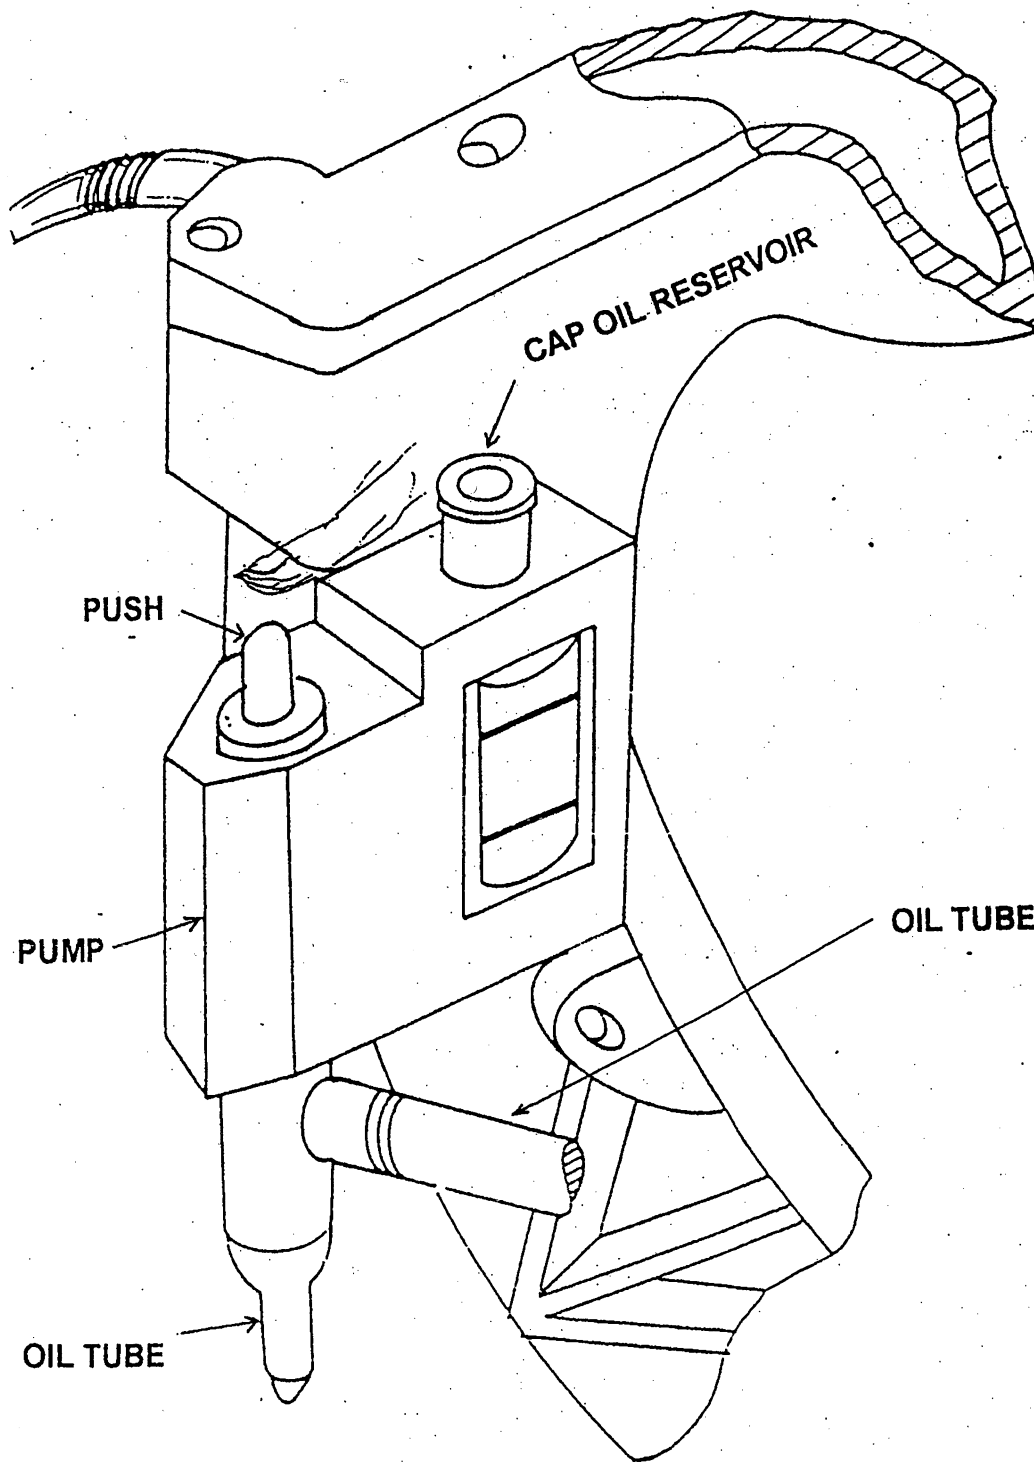

Fig.06
C) Oiling : (See also Fig. 06)